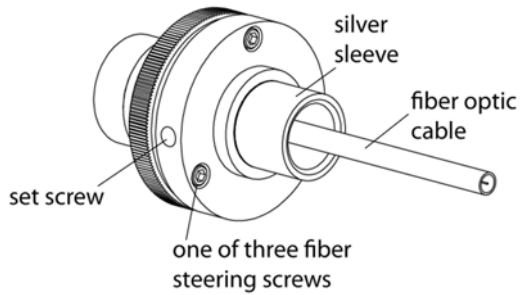

Figure 3 - Components of a lens assembly
1. Use the 5/64-inch hex screwdriver from the **turret 6** accessory kit to loosen the set screw (Figure 3).